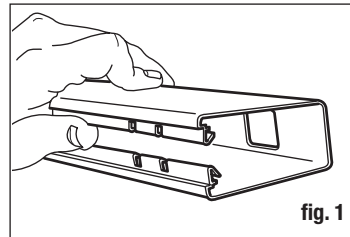

fig. 1
- Take one of the rails and gently open the throat with your hand or a wooden wedge (fig. 1). This will become the bottom rail of the assembly.
Most yards are relatively level and will allow for a fairly simple installation. If your yard is steeply pitched or very uneven, be sure to allow for the required mounting height of the adjacent panel when setting your posts. You may need to "stair step" the panels in extreme cases (fig. 1).
- Prenez l'une des traverses et ouvrez doucement la gorge à la main, ou utilisez un coin de bois (fig. 1). Ceci deviendra la traverse inférieure de l'ensemble.